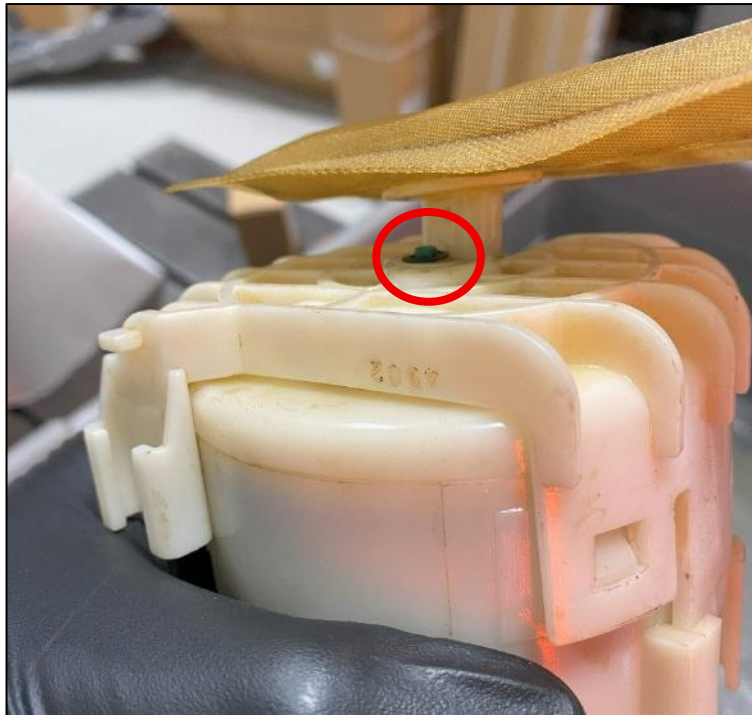

Figure 20
12. Reinstall the Fuel Strainer and secure with the star washer removed in *Step 5, Figure 20*.